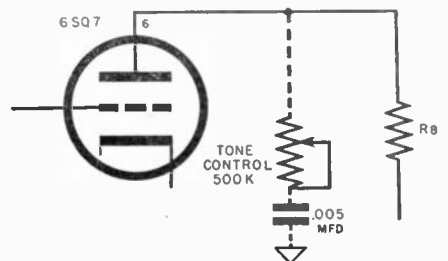

Fig. 2-41. Tone control circuit.
i) *Tone Control Circuit.* If you intend to add a tone control to the set, refer to Figure 2-41 for the diagram. The connections to be added are indicated by the dotted lines.